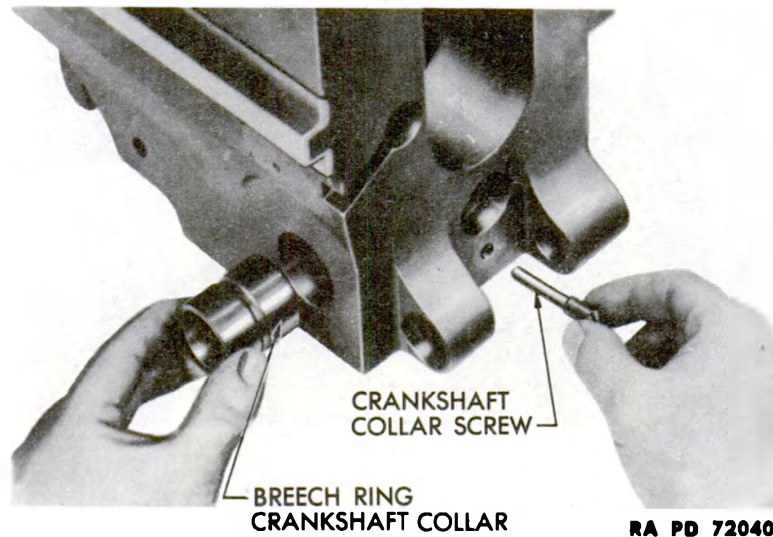

Figure 148 – Breech Ring Crankshaft Collar – Disassembled
c. **Breech Ring Crankshaft Collar.** Unscrew and withdraw the breech ring crankshaft collar screw. Slide the breech ring crankshaft collar out of place (fig. 148). Replace worn or damaged collar with a new one and install parts.